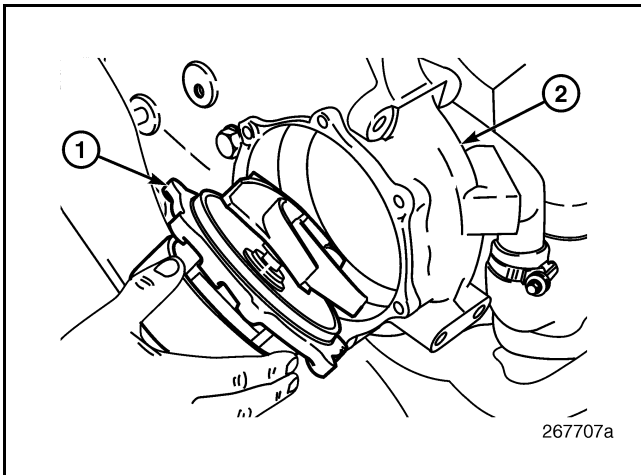

Figure 411 — Water Pump Cartridge Assembly Installation
- Place the pump cartridge assembly in position on the pump housing (pump only fits one way due to the spacing of the seven holes) and install the seven mounting capscrews (Figure 411). Tighten the capscrews to 17 lb-ft (23 N•m).